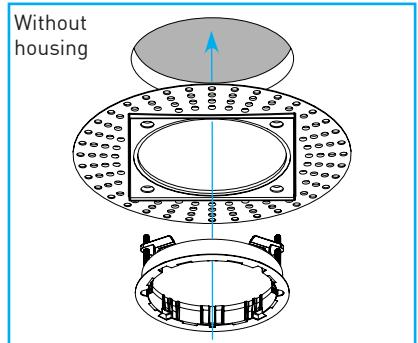

Fig.49
**Without Housing:** For remodel or tethered power supply installations without a housing, center appliqué in cut-out and install trim adaptor (with arms pointed inward) up through appliqué. To secure, tighten adaptor screws so arms swing out then down, until appliqué is fully seated against ceiling surface **"Fig.49"**, ensuring desired alignment if square appliqué is used.